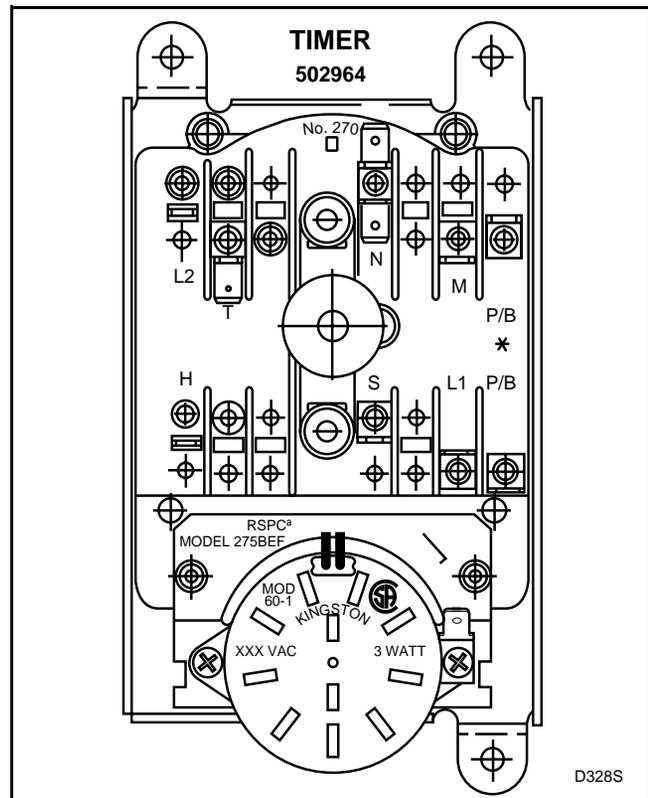

Figure 42
67. TIMER ADVANCE AND TIMER CONTACT POINTS (*Figure 42*)
- (3.) Set test meter to read Ohms and apply meter probes to terminals. See *Figure 42*.
- (4.) Starting with timer knob indicator in OFF position at top of timer, slowly turn timer knob clockwise until indicator is again pointing toward OFF position at top of timer. Meter should register “zero” reading when circuit being tested is completed by timer. Refer to *Figure 42* for Timer Cycle Chart showing when circuit is made.